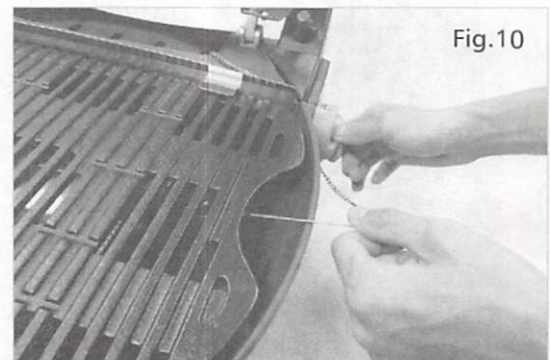

Fig. 10
- (c) Hold extension stick close to Burner and turn control knob slowly (Fig.10)